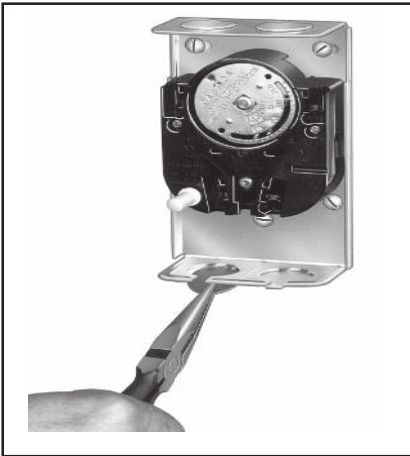

Fig. 5 - Removing slotted knockouts.
1. To remove the slotted knockout(s), use a needlenose pliers as shown in Fig. 5 and pull straight down.